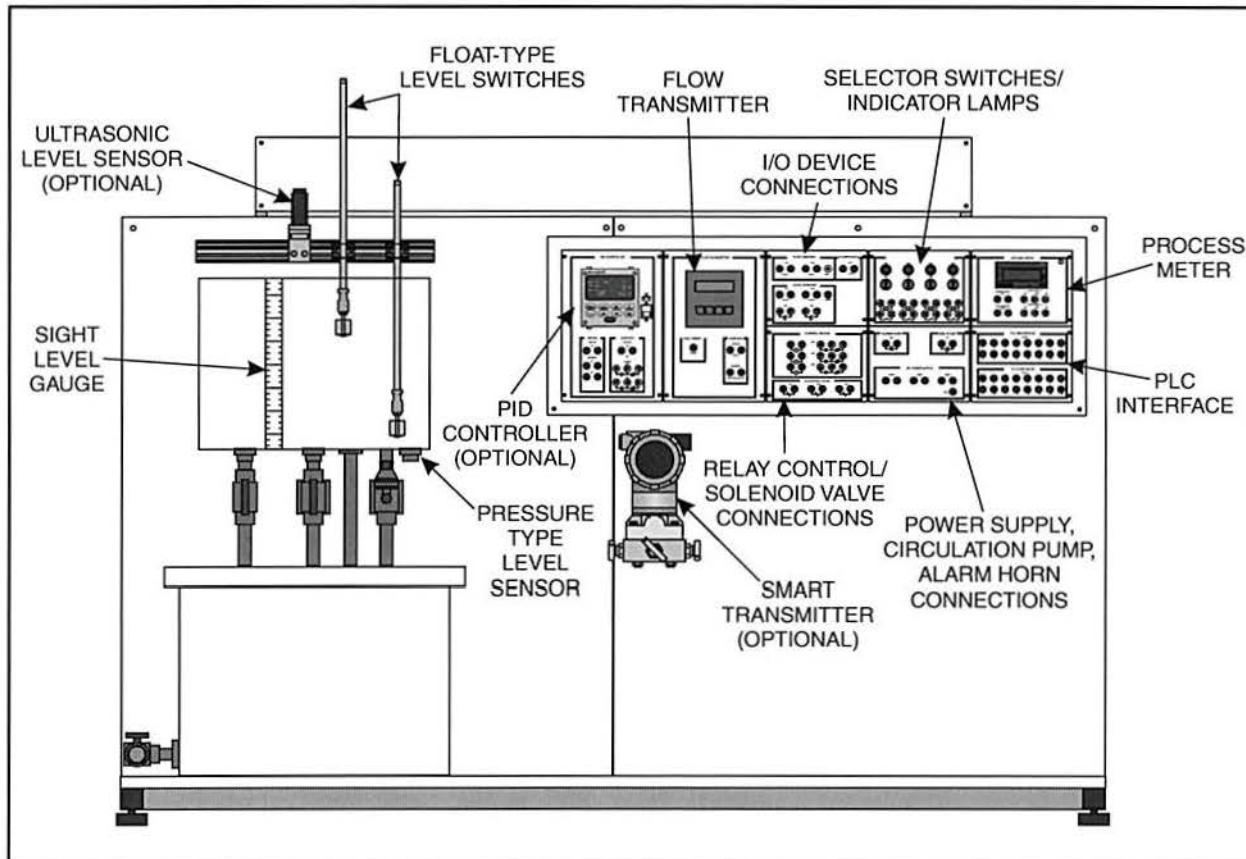

Figure 24. T5552 Control Panel and Process Tank Components
4. Locate the control components on the T5552, as shown in figure 24.